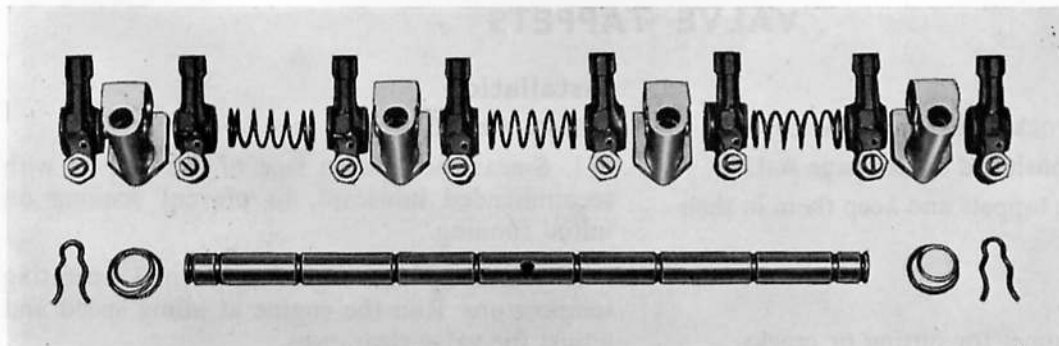

Fig. A.11.
1. Lubricate the shaft and rockers with engine oil. Position the shaft so that the large hole is at the top, and assemble the component parts (Fig. A.11).